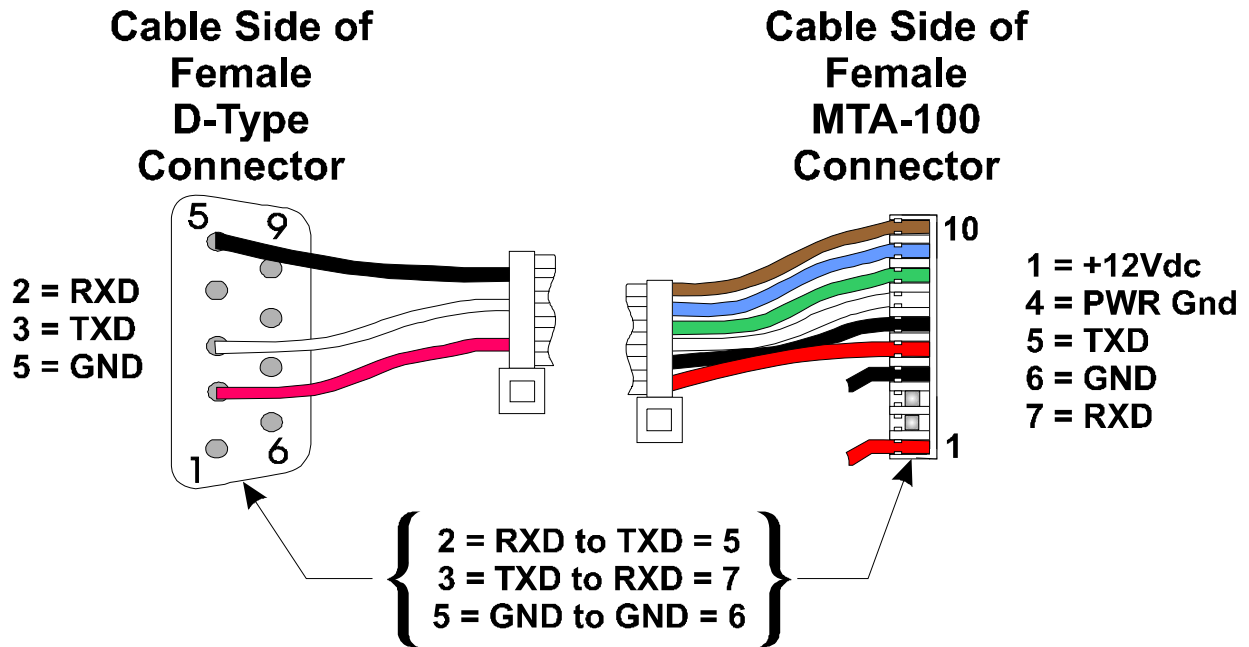

Figure 4 - Cable Diagram for Radio to PC Interface
8. Remove the MDS Radio's Power Connector from the MDS Radio in question and connect the unterminated ends of the MDS Power Cable (shipped loose with the **ControlWave EFM**) to the MDS Power Connector (Red = Pos. and Black = GND) (see Figure 1). Plug the end of the MDS Radio Power Cable that you just dressed into the MDS Radio. Plug the other end of the MDS Radio Power Cable into connector TB3 of the Power Distribution Board (see Figure 4).
Connection to the PC requires a special RS-232 cable with a 9-pin Female D-Type connector on the PC side and a 10-pin Female MTA-100 Connector assembly on the radio side. A cable can be constructed as illustrated in Figure 4. The terminal program must be running before invoking the setup program. The setup program is invoked by shorting MTA-100 Connector pins 4 (GND) and 2 (MENU) together.